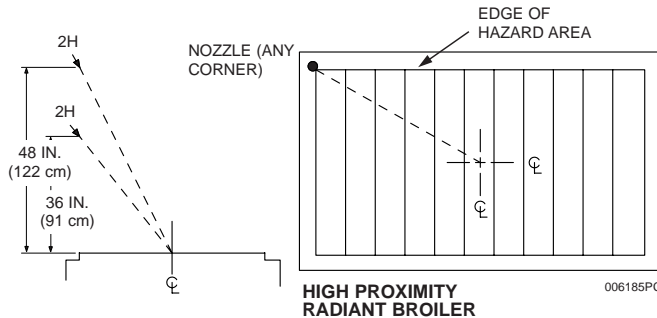

Figure 3-11a.
The 2H nozzle, Part No. 551028, is used for high proximity radiant char-broiler protection. This nozzle is a two (2) flow nozzle. The nozzle must be located **above any corner** of the hazard surface, 36 in. to 48 in. (91 to 122 cm) above the cooking surface of the appliance and aimed at the center of the broiler surface. See **Figure 3-11a**.